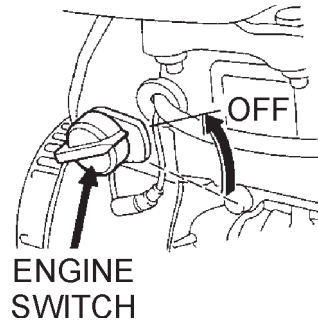

Figure 23. Engine ON/OFF Switch (OFF Position)
2. After the engine **cools**, turn the engine start/stop switch to the "**OFF**" position (Figure 23).